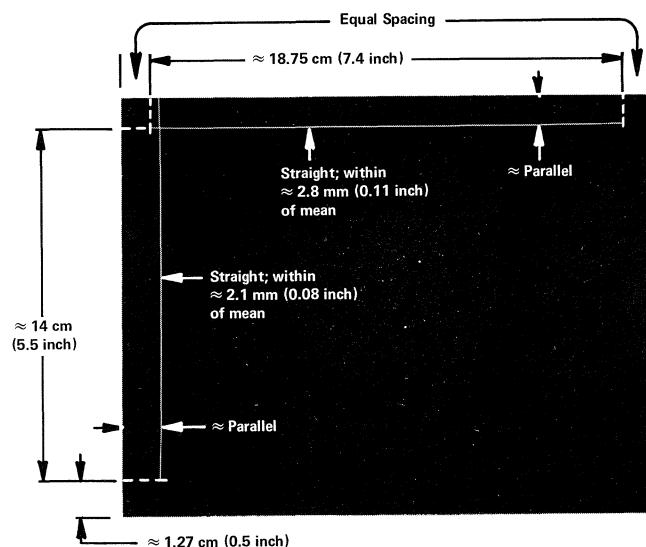

Fig. 4-8. Display Positioning, Using Cross-hair Cursor.
- e. Check display positioning. It should meet the following requirements (see Fig. 4-8):
- (1) Adjust X POS for approximate left-right centering of horizontal line.
(2) Adjust Y POS to approximately center the vertical line segment described by its lower end and the point of intercept with the horizontal line (vertical thumbwheel at upper limit). See Fig. 4-8.